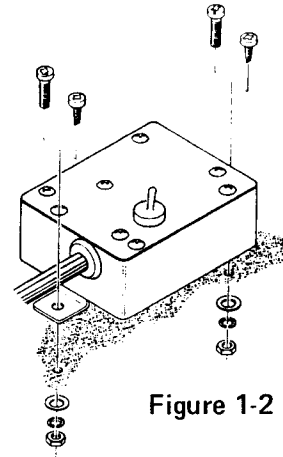

Figure 1-2
- (1) Refer to Figure 1-2, and mount the FHR-1 box in the desired location. The unit is not waterproof, so a position not exposed to moisture is recommended.